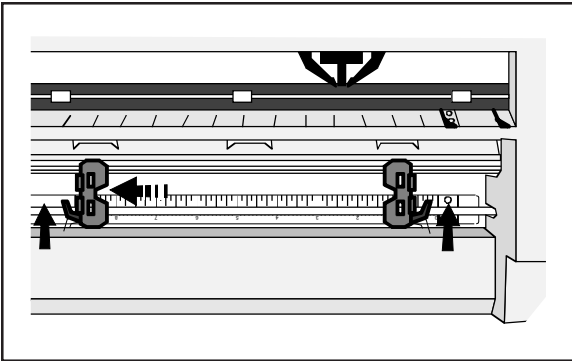

Figure 3-6. Unlocking the Tractors
3. Unlock both tractors by moving the locking levers, as shown in figure 3-6.